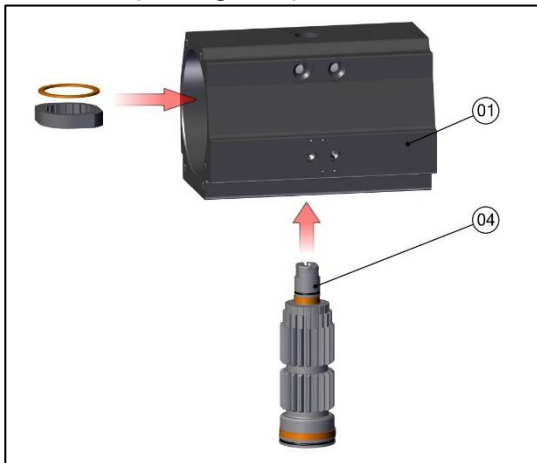

Fig No.23
- b) Insert the pinion (04) inside the Body (01) from bottom side. (refer Fig no.23)